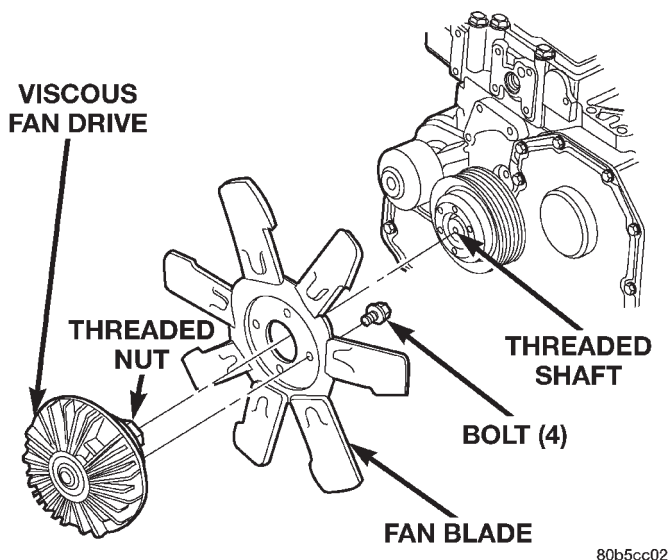

Fig. 26 Fan Blade/Viscous Fan Drive
(3) The thermal viscous fan drive/fan blade assembly is attached (threaded) to the fan hub shaft (Fig. 26). Remove the fan blade/fan drive assembly from fan pulley by turning the mounting nut clockwise (as viewed from front). Threads on the viscous fan drive are **LEFT-HAND**. A Snap-On 36 MM Fan Wrench (number SP346 from Snap-On Cummins Diesel Tool Set number 2017DSP) can be used. Place a bar or screwdriver between the fan pulley bolts to prevent pulley from rotating.
- (1) Install fan blade assembly to viscous fan drive. Tighten mounting bolts to 23 N·m (17 ft. lbs.) torque.
- (2) Position the fan shroud and fan blade/viscous fan drive to the vehicle as an assembly.
- (3) Install viscous fan drive assembly on fan hub shaft (Fig. 26). Tighten mounting nut to 57 N·m (42 ft. lbs.) torque.
- (4) Install fan shroud bolts into position and tighten the mounting bolts to 6 N·m (50 in. lbs.) torque.
- (5) Connect the battery negative cables.